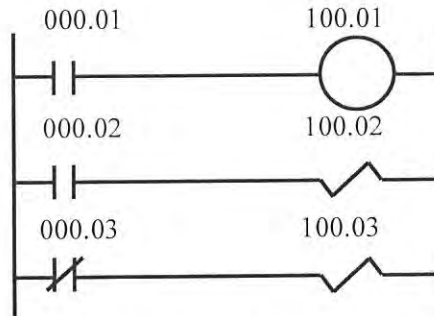

Figure Q4 (b)
- (b) Identify the correct input and output addresses by filling in the blanks provided below. Refer to **Figure Q4(b)** and **Table Q4(b)**.
- (i) Identify any energized output in the ladder diagram of **FigureQ4(b)**.